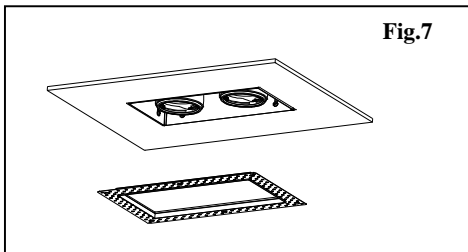
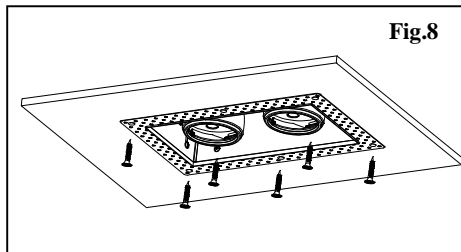

Fig.7
Fig.8
- a. Raise screen panel to ceiling opening and secure with screws supplied (as Fig.7 and Fig.8).